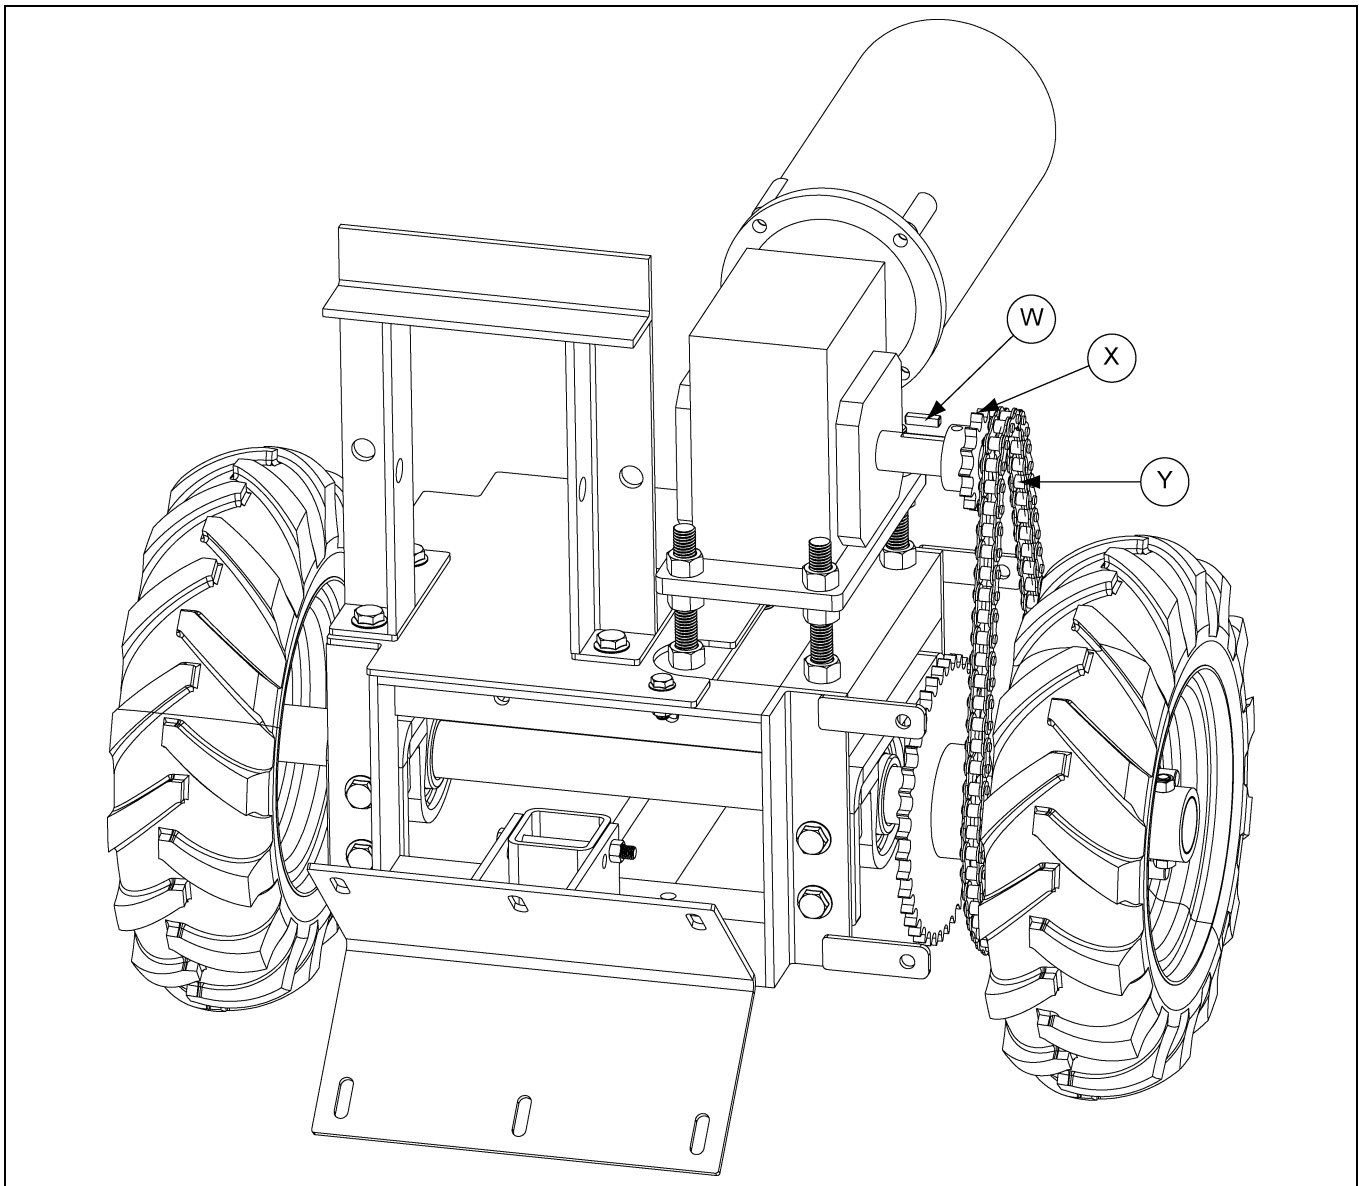

Figure 4X
16. Assemble the 13 tooth sprocket (X) to the motor shaft using a 1/4" square x 1" key (W).
19. Tension the roller chain (Y) as required by adjusting the nuts on the 5/8"-11 x 6" threaded rods. (See Figure 4X.)